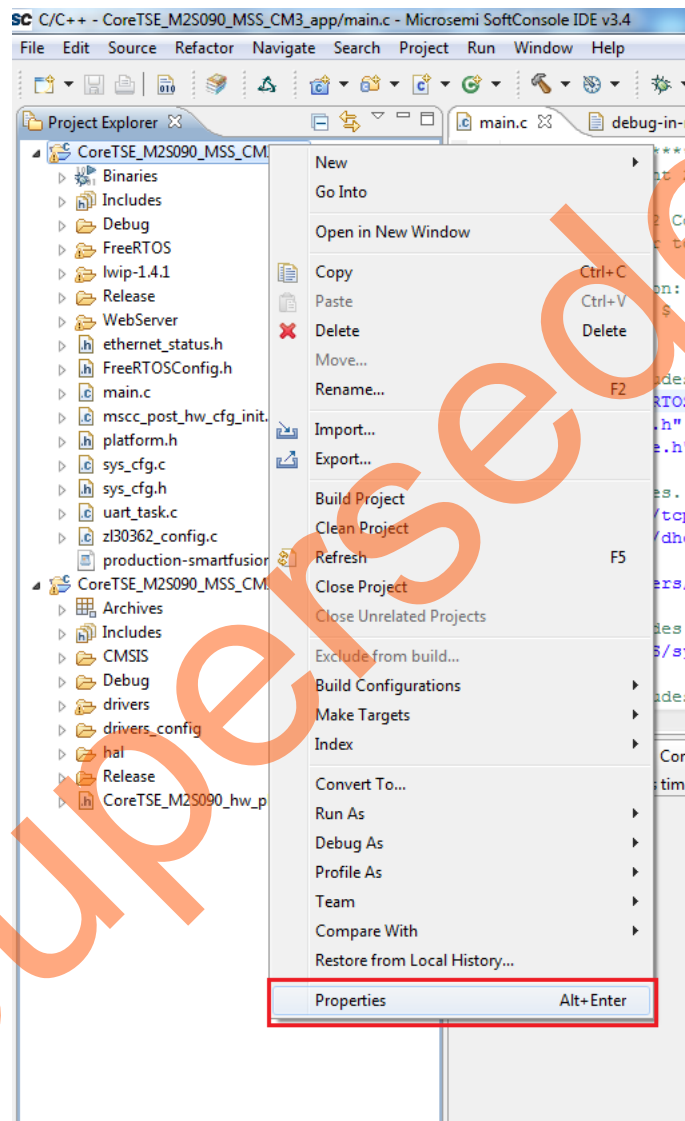

Figure 1 • Project Explorer Window of SoftConsole Project
1. To run the Webserver design in static IP mode, right-click the CoreTSE_M2S090_MSS_CM3_app project and select **Properties**, as shown in Figure 1.